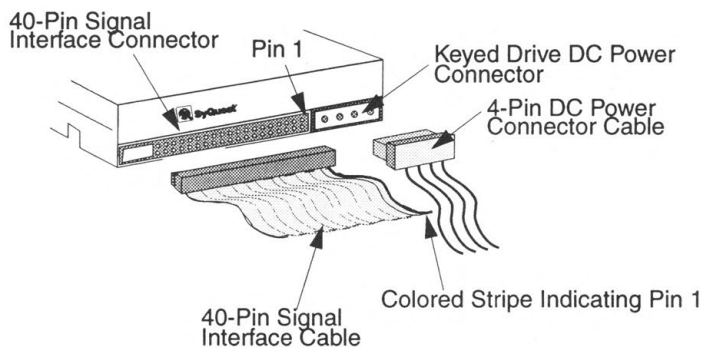

Figure 17. Close-up View of Cables Connected to the EZ135 Drive
**NOTE:** Make sure to align Pin 1 of the ribbon cable with Pin 1 of the drive connector. Pin 1 of the cable is marked by a colored stripe along the length of the cable. Pin 1 on the EZ135 drive is usually labeled by a “1” or a square solder joint near the DC power connector (See Figure 17).
Find an unused DC Power connector and attach it to the EZ135 IDE drive (See Figure 17). The power connector is shaped to connect only one way.